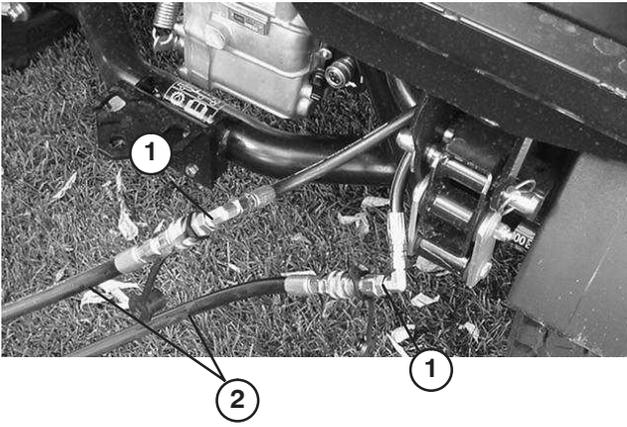

Figure 73
- On the disabled vehicle, connect the two jumper hoses to the hoses that were disconnected (Fig. 73). Cap unused fittings.